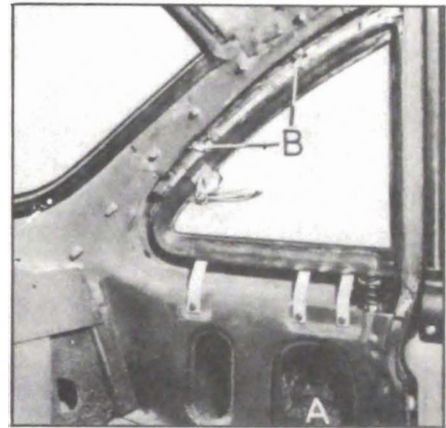

Figure 13-22—Rear Quarter Ventilator Inside Area
(d) Through inner panel inspection hole "A" remove the rear quarter belt molding retaining nut, cup washer and rubber washer. See figure 13-22.
2. Above rear quarter ventilator at "B," inside the body, remove the two barrel nuts and washers securing the header molding. See figure 13-22.